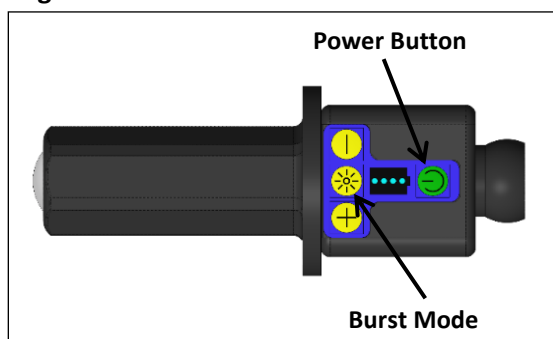

Figure 12.
- 8) Use the +/- buttons to cycle through the four intensity settings in a progressive manner to adjust brightness. Use the Burst Mode button, shown in Figure 12, to activate the highest light intensity setting.